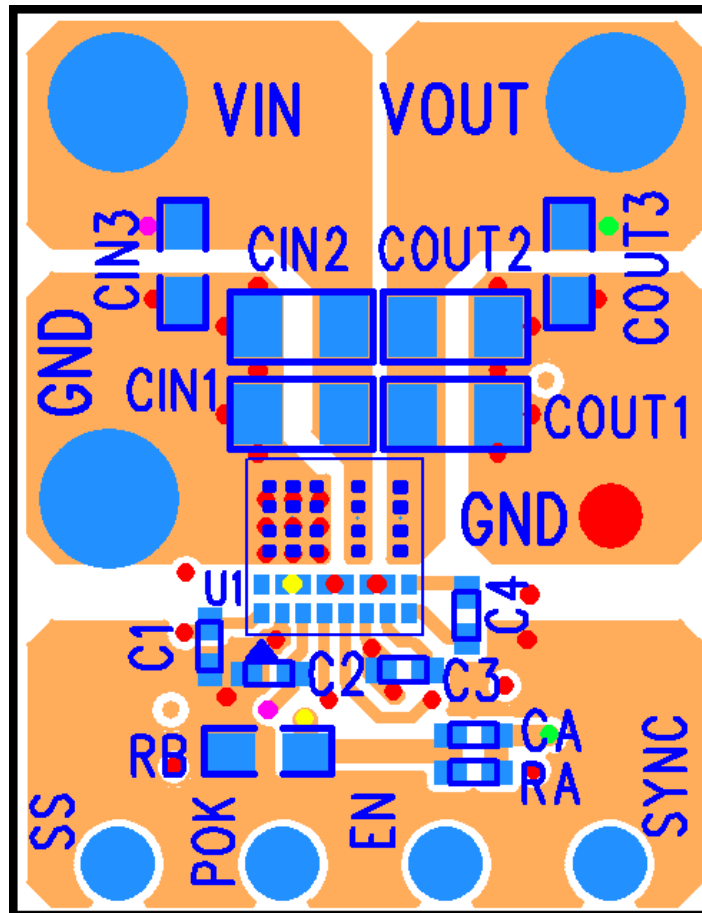

Figure 11: Top PCB Layer Critical Components and Copper for Minimum Footprint (Top View)
Figure 11 shows critical components and layer 1 traces of a recommended minimum footprint EN6338QI layout. EN and other small signal pins need to be connected and routed according to specific customer application. Visit the Enpirion Power Solutions website at [www.altera.com/powersoc](http://www.altera.com/powersoc) for more information regarding layout. Please refer to this Figure 11 while reading the layout recommendations in this section.
**Recommendation 3:** The ground thermal pad underneath the device must be connected to the system ground plane through as many vias as possible. The drill diameter of the vias should be 0.33mm, and the vias must have at least 1-oz. copper plating on the inside wall, making the finished hole size around 0.2mm to 0.26mm. Do not use thermal reliefs or spokes to connect the vias to the ground plane. This connection provides the path for heat dissipation from the converter. Please see Figure 11.
plane. Put the vias under the capacitors along the edge of the GND copper closest to the Voltage copper. Please see Figure 11. These vias connect the input/output filter capacitors to the GND plane, and help reduce parasitic inductances in the input and output current loops. If the vias cannot be placed under  $C_{IN}$  and  $C_{OUT}$ , then put them just outside the capacitors along the GND slit separating the two components. Do not use thermal reliefs or spokes to connect these vias to the ground plane.
**Recommendation 5:** AVIN is the power supply for the internal small-signal control circuits. It should be connected to the input voltage at a quiet point. In Figure 11 this connection is made at the input capacitor furthest from the PVIN pin and on the input source side. Avoid connecting AVIN near the PVIN pin even though it is the same node as the input ripple is higher there.
**Recommendation 7:** Keep  $R_A$ ,  $C_A$ ,  $R_C$  and  $R_B$  close to the VFB pin (see Figure 11). The VFB pin is a high-impedance, sensitive node. Keep the trace to this pin as short as possible. Whenever possible, connect  $R_B$  directly to the AGND pin instead of going through the GND plane. The AGND should connect to the PGND at a single point from the AGND pin to the PGND plane on the 2nd layer.